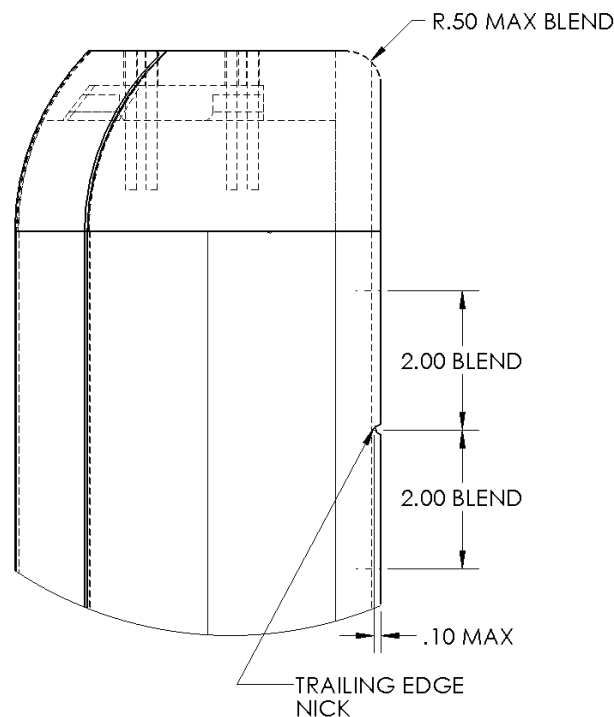

Figure 5.1
- f. Scratches, nicks, or fiber damage in the extreme trailing edge 0.10 deep or less may be blended out over a distance of at least 2.0 inches each side of the damage. See Figure 5.1 below.
- g. Damage at the tip trailing edge may be removed by blending up to a 0.50 inch radius at the tip. See Figure 5.1 below.